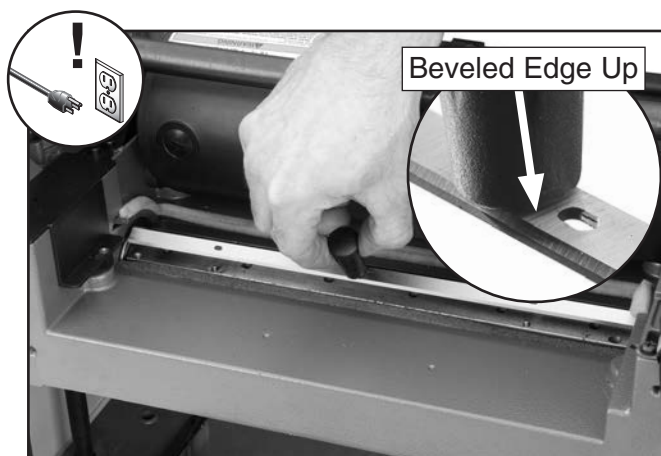

Figure 24. Example of installing knife with magnet.
2. Using included magnets, align knife with two pins on cutterhead. Be sure knife is oriented with beveled edge up, as shown in **Figure 24**.